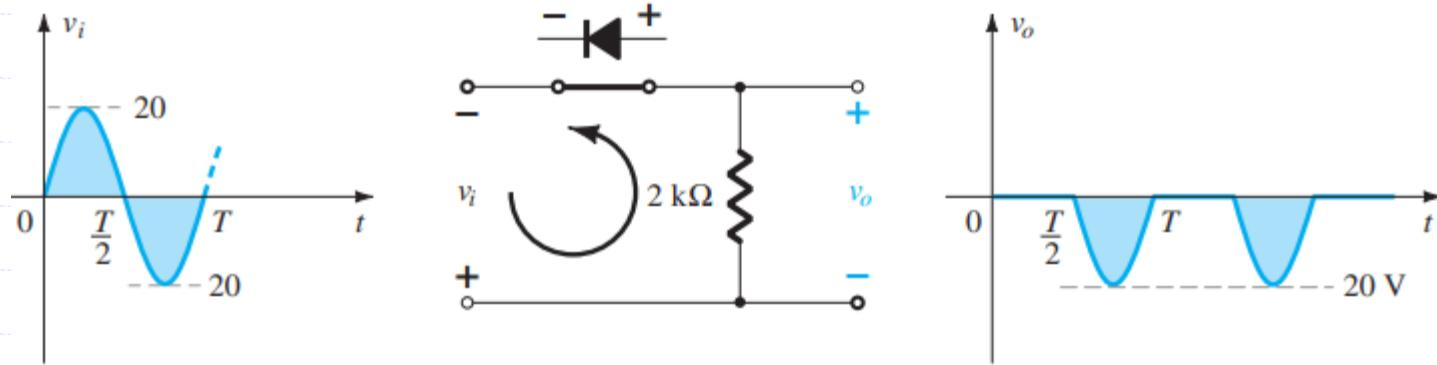

FIG. 2.50
- A. In this situation the diode will conduct during the negative part of the input as shown in Fig. 2.50, and v_o will appear as shown in the same figure. For the full period, the dc level is